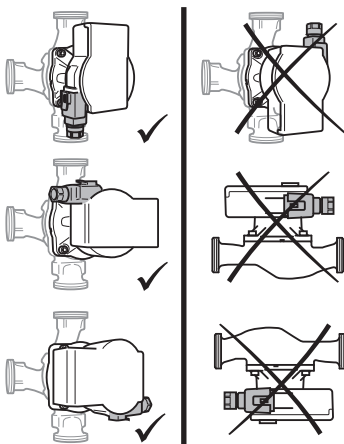

Fig. 2: Installation positions
- Select the installation point according to the permitted installation position (Fig. 2).
- Observe the pump's allowable installation position (Fig. 2), rotate the motor head (2 + 6) if necessary.